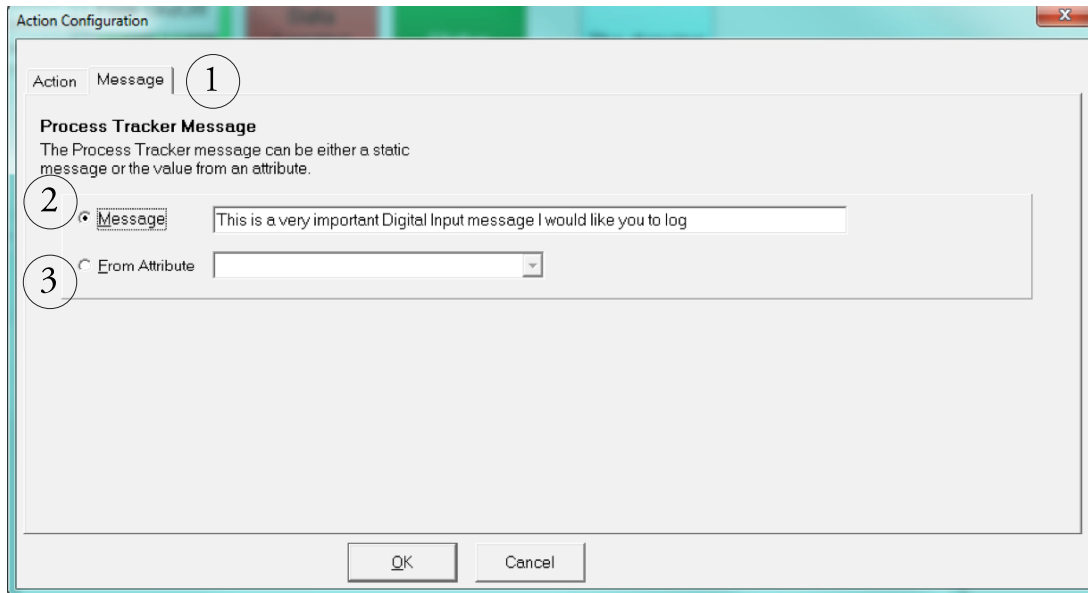

Figure 33. Process Tracker: Log Message.
- 1.2 Select the Message tab (*Part 1 in Figure 33*).
- 2.1.1 In the text box, enter the message (*Part 2 in Figure 33*).
- 2.2.1 In the Message tab of the Action Configuration, select the radio button for From Attribute (*Part 3 in Figure 33*).